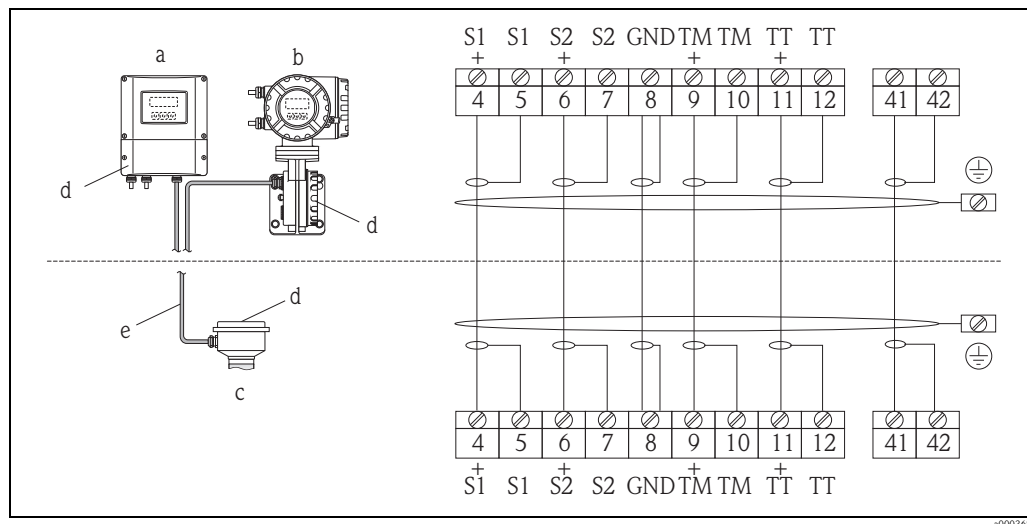

Fig. 19: Connecting the remote version
3. Establish the connections between sensor and transmitter in accordance with the wiring diagram (→ Fig. 19 or see wiring diagram in screw cap).